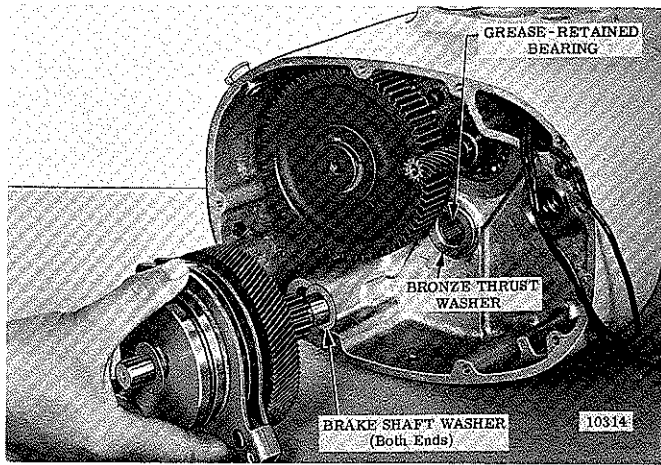

Figure 7-8. Removing Load Brake and Clutch Assembly (1/4 & 1/2 Ton Hoists)
(1) On 1/4 thru 1/2 ton hoists, pull load brake and over-load clutch assembly and the brake shaft washers from inside hoist frame (fig. 7-8). Caution: Grease-retained bearing has 36 rollers (all capacities) and may be reinstalled unless rollers are broken or missing or cup is damaged.